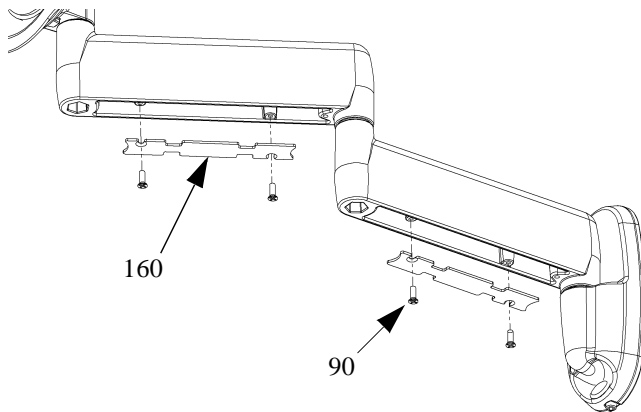

Figure 9: Cable Management
3. Secure cables using two cover plates and four screws. (see figure 9)